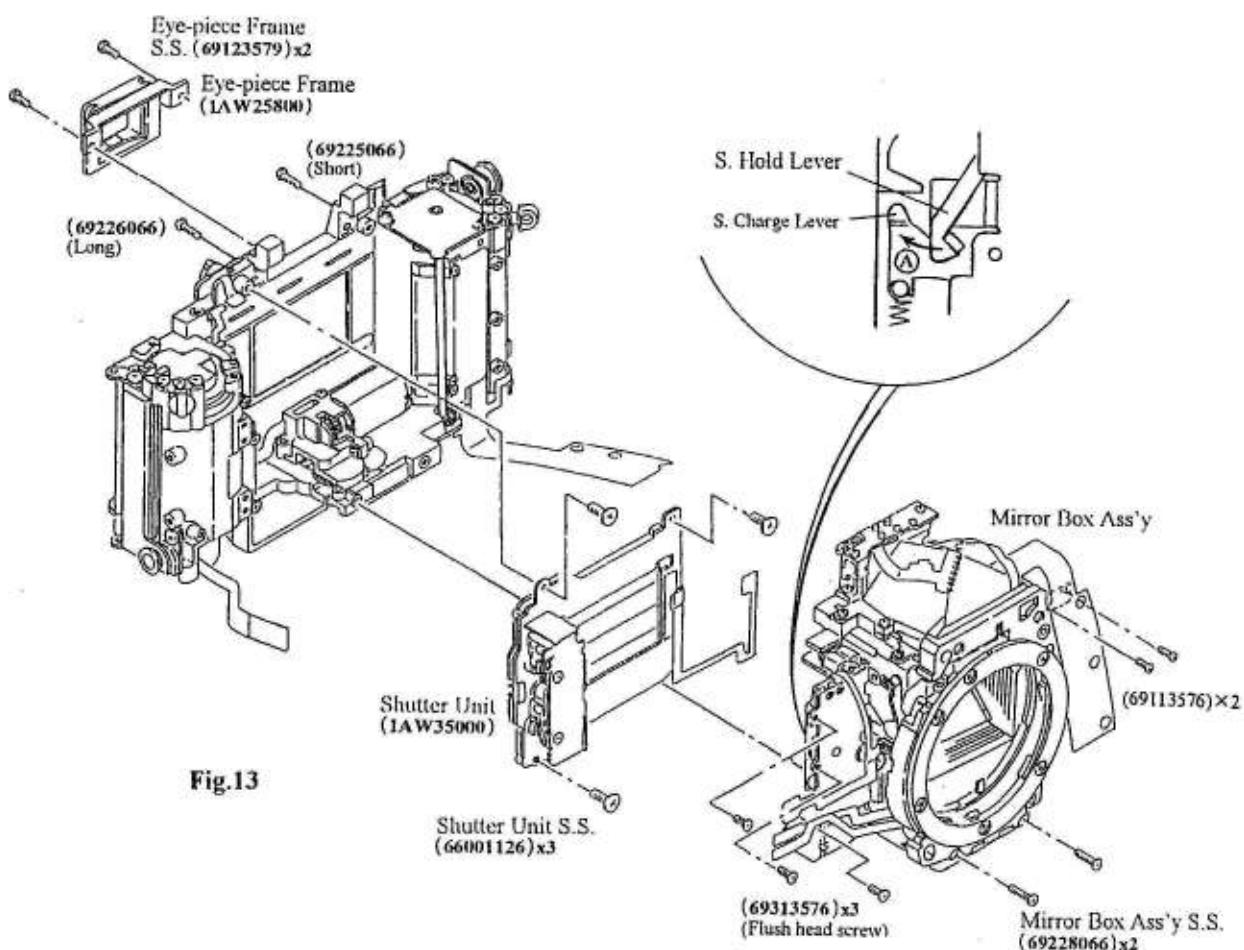

Fig.13
(See Fig. 13)
- a) By moving the S. Hold Lever incorporated in the Mirror Box Ass'y in the direction of the arrow Ⓢ, rotate the rotor of the S. Charge Motor to release the hook of the S. Hold Lever and the hook of the S. Charge Lever. In this state, where the mirror is in the UP position, install the Mirror Box Ass'y in the Body. (See Fig. 13)